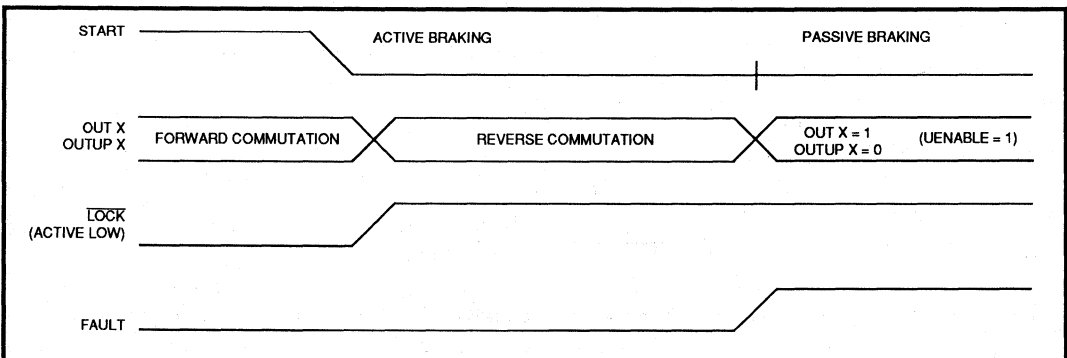

FIGURE 3: Active Braking Sequence
- (4) Reverse shutdown speed. During active braking ($START = 0$) the HALL sensor's phasing is changed to apply a reverse torque to the motor until the motor speed drops below the reverse shutdown speed at which time the drivers turn off to deny power to the motor and FAULT goes high. (See Figure 3)